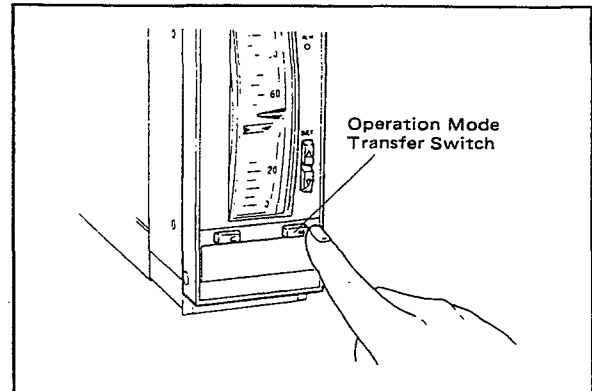

Figure 5-12. Operation Mode Transfer.
- (1) Press mode press switch  on the front panel to set the instrument in manual operation mode. Insure that lamp  lights. (See Figure 5-12).